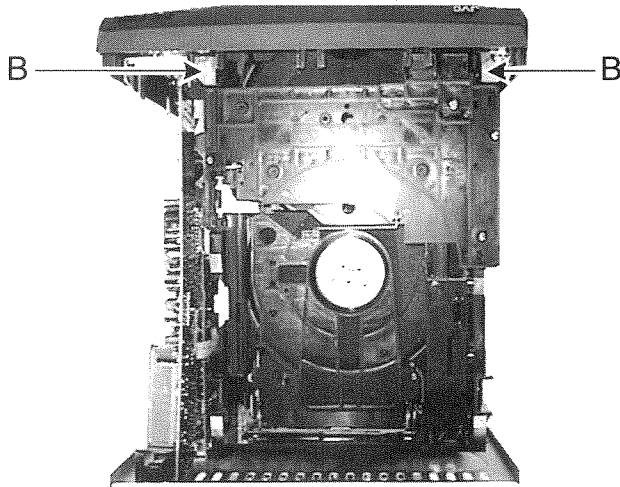
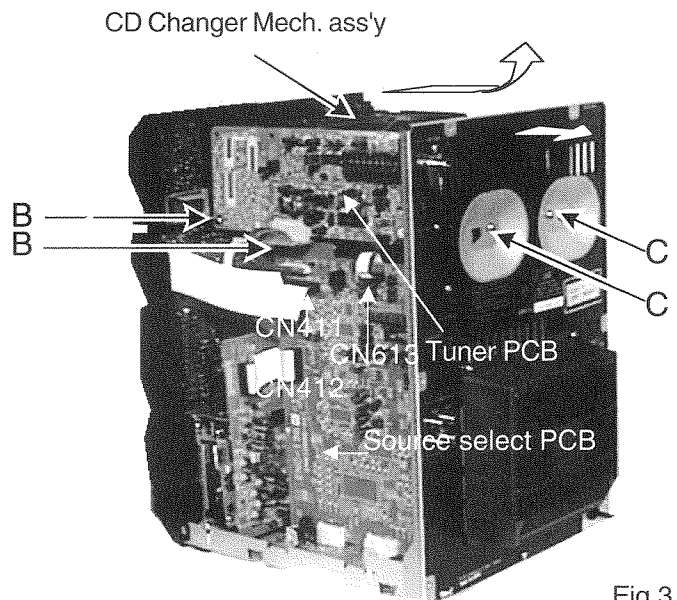

Fig.2
Fig.3
1. Remove 2 screws (B) fastening up side (Fig. 2).
2. Remove 2 screws (C) fastening rear side.
3. Remove 2 screws (B) holding the PCB's.
5. Remove the changer mechanism ass'y (Fig. 3).